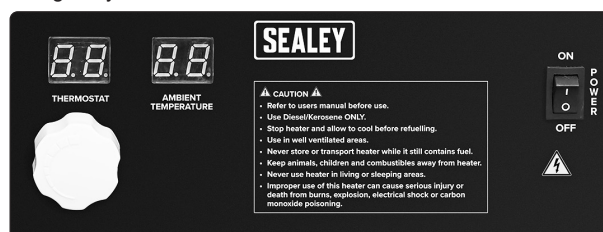

fig.1A
7. OPERATION (REFER TO FIG.1A)